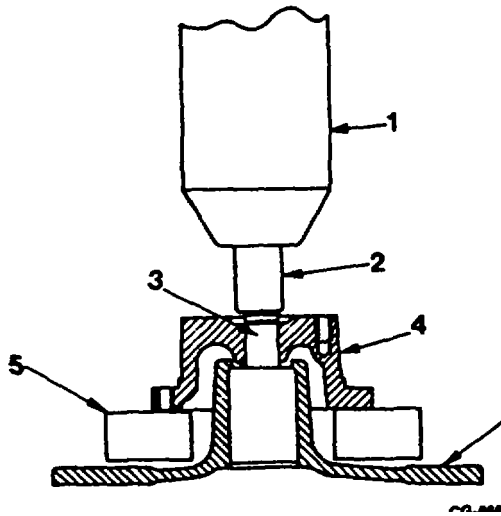

Figure 161. Fan Mounting Drive Hub Removal
3. Using remover adapter tool press hub from shaft (Figure 161).